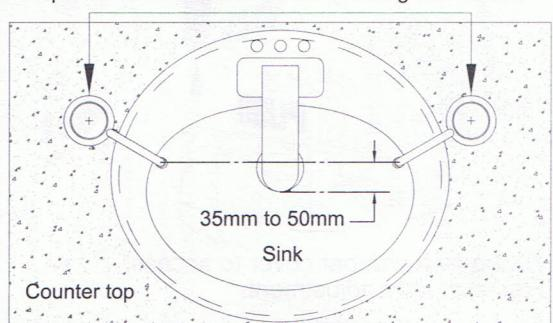

Fig. 2A
- A. Choose a suitable location (Fig 2A), cut and paste installation template (Fig. 2B) on the drilling location. (Ensure clearance above and below the counter as shown in Fig. 3).